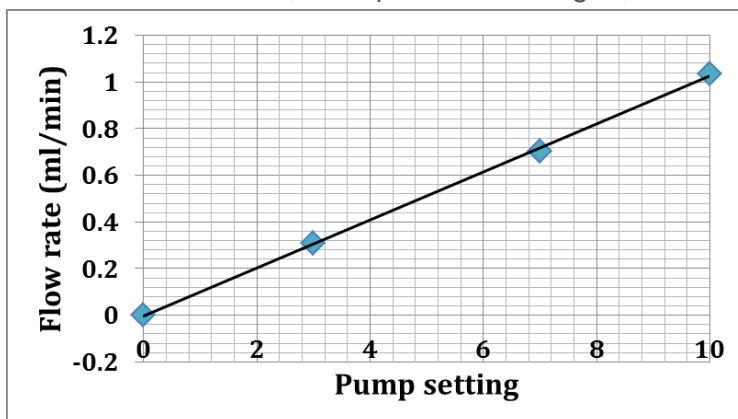

Figure 2. Example calibration curving using PF22X0103 with 3 QV500 chambers.
3. Repeat procedure three times for each of three different settings (for example, low, medium and high speed), then plot the mean values on a calibration curve, example shown in Fig. 2,.